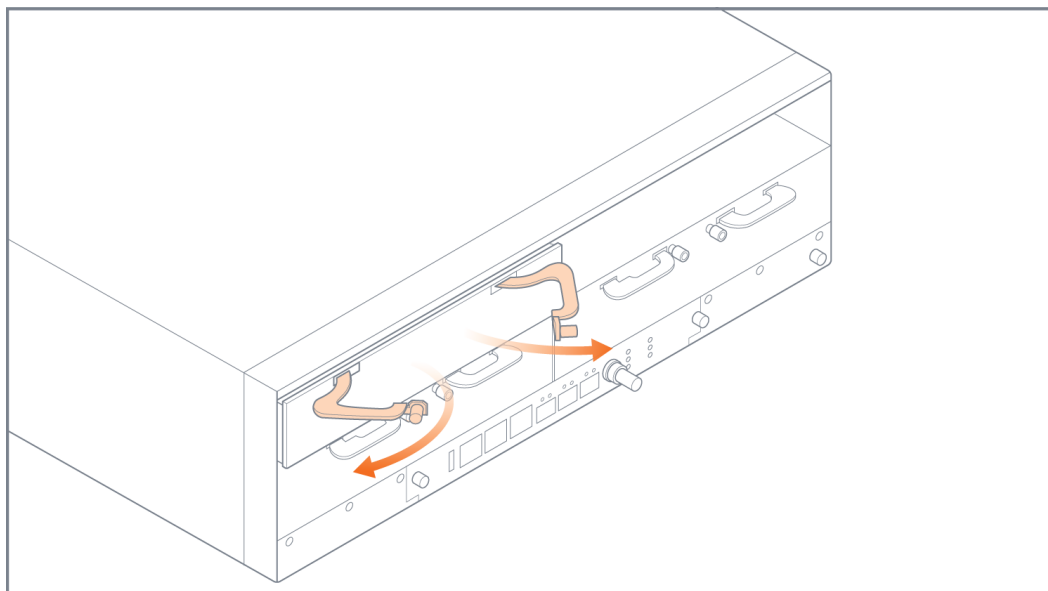

Figure 8 *Filler Panel Levers*
5. Open the levers on a filler panel as shown in Figure 8 Filler Panel Levers.